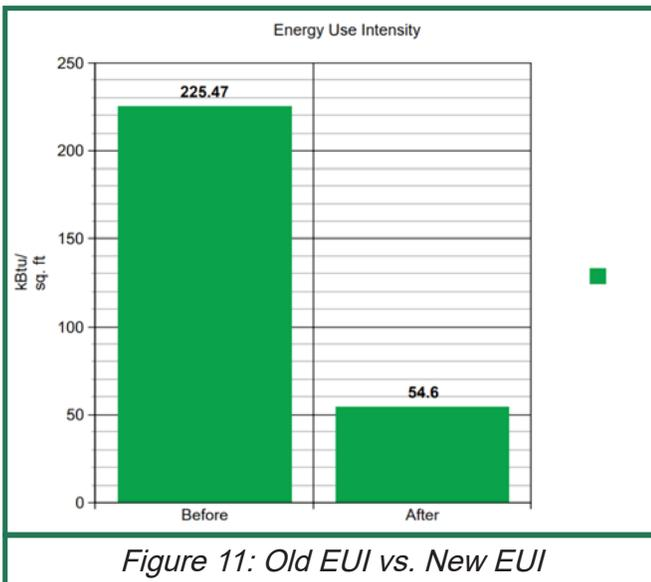

Figure 11: Old EUI vs. New EUI
Near South Health Center has the potential to drastically decrease energy consumption in the building. With the improvements, the center can reduce its energy consumption by 75% including the photovoltaic (PV) system. As shown in Figure 11, the existing EUI of the center is 225.47 kBtu/ft2, and with the improvements made, the new EUI is 54.6 kBtu/ft2.